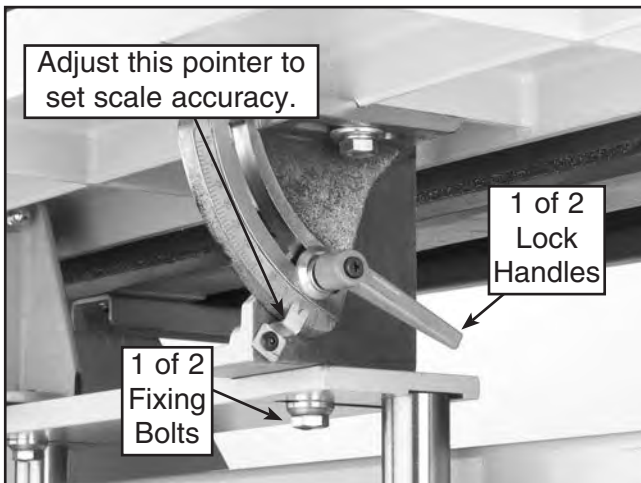

Figure 14. Main table angle adjustment lever.
1. Loosen the lock handles underneath each end of the main table as shown in **Figure 14**.
3. Changing the table angle may reduce the clearance between the inside edge of the table and the sanding belt surface. If there is less than 1/16" clearance, loosen the fixing bolts located on the underside of the table mounting bracket as shown in **Figure 14**. Pull the table and mounting bracket away from the sanding belt so there is at least 1/16" clearance between the inside edge of the table and the sanding belt surface.